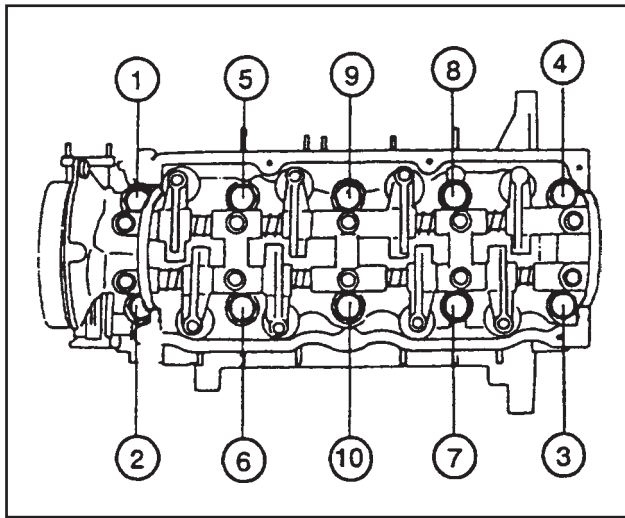

FIGURE 4. SEQUENCE FOR REMOVAL OF THE CYLINDER HEAD
15. Remove the capscrews for the cylinder head in steps. Remove the capscrews in the sequence shown in FIGURE 4.